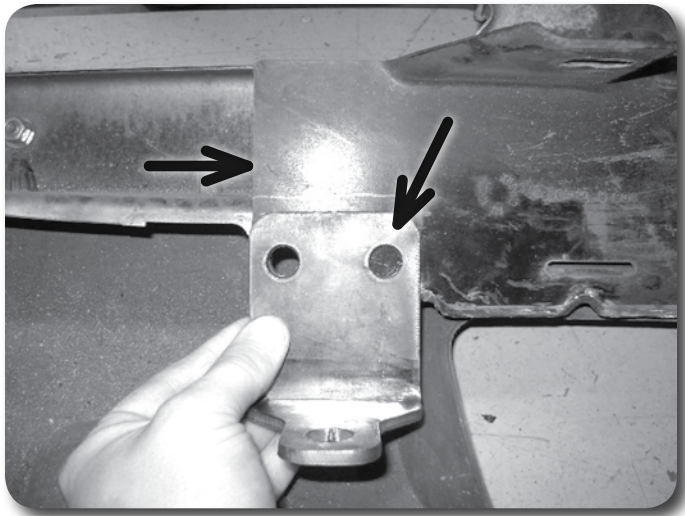

Figure 21
44. Locate a new front bumper bracket. Line the inner mounting hole of the new bracket with the lower inside factory hole where the bolt/nut tab was removed. Also, align the vertical edge of the new bracket with the vertical edge of the factory bracket. Mark the second bracket mounting hole to be drilled. Figure 21